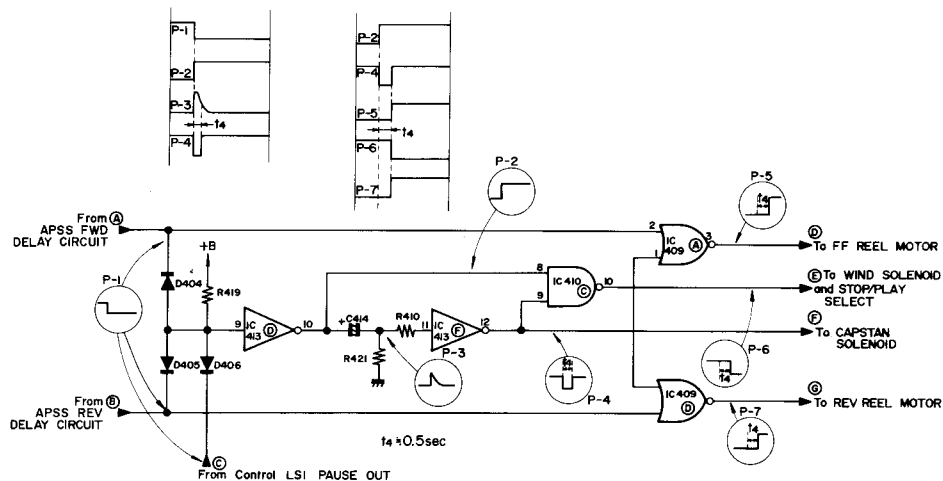

Figure 24-2
3.4.4 Delay (APSS/Pause) Circuit (Refer to Figure 24-2)